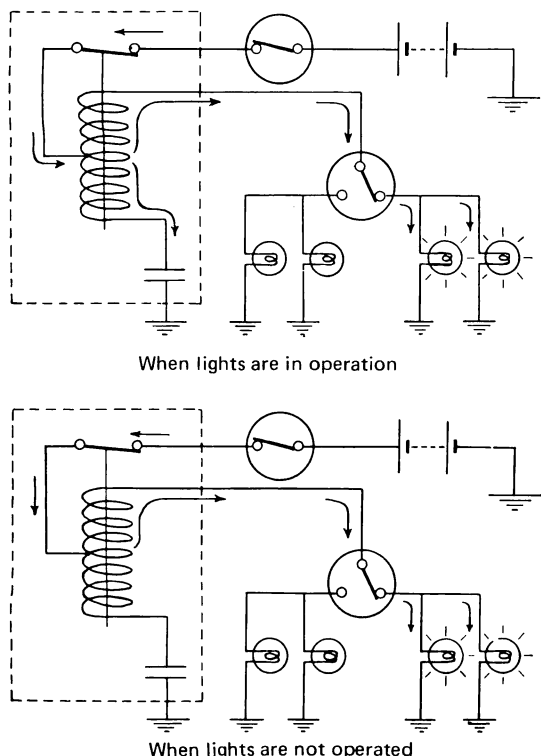

Fig. 22-5 Wiring diagram for turn-signal flasher relay (U.S. Suzuki Motor Company)
**Turn Signals.** The parts of a turn signal system usually are the turn signal switch, the flasher relay, and the four lights and grounds. Some newer bikes have warning buzzers and switches to remind riders their turn signal lights are on. Figure 22-5 shows a condenser-type flash relay and turn signal wiring diagram. The flasher relay consists of a two-coil and iron-core electromagnet, contact points, and a capacitor. When the turn signal switch is closed, current flows through the coil in both directions, to the capacitor and through the signal bulbs. As long the cur-
Referring to Figs. 22-5 and 22-1, notice that the system has four directional signal bulbs: one for the front and rear for each side, and a pilot bulb usually near the speedometer group. Major problems encountered with turn signal systems are burned out bulbs, loss of grounding, defective relays, and switch malfunctions. The use of a test light to trace current availability will help to locate the trouble. Relays are designed for a specific wattage load and will not cycle at the correct frequency if the load is greater or less than designed for.